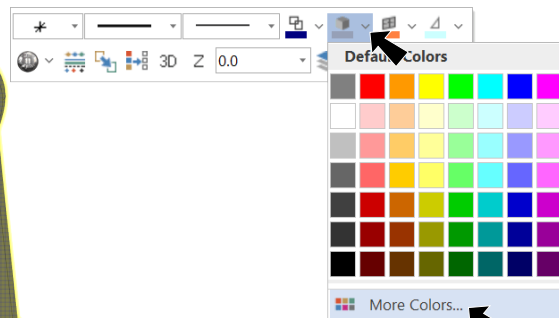

Fig. 6
Step 2. **Right click** in the graphics window and on the Mini Toolbar click **Solid Color**  drop down arrow, then click **More Colors**, **Fig. 6**.